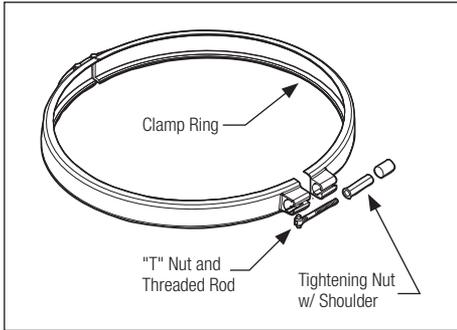

Figure 9. Filter Clamp Ring
3. Place the "T" nut and threaded rod assembly into the clamp. Be sure the "T" nut is seated in the clamp in the proper orientation. See Fig. 9.
4. Use a 9/16" socket on the tightening nut until the clamp ring halves touch each other, or are within 1/16", see Fig. 9 *but do not overtighten as the clamp can break*. If unable to tighten as indicated, do not operate the filter and *call a service technician immediately*.
3. Check that the tank clamp is correctly seated and tight. See Figs. 9 and 10.